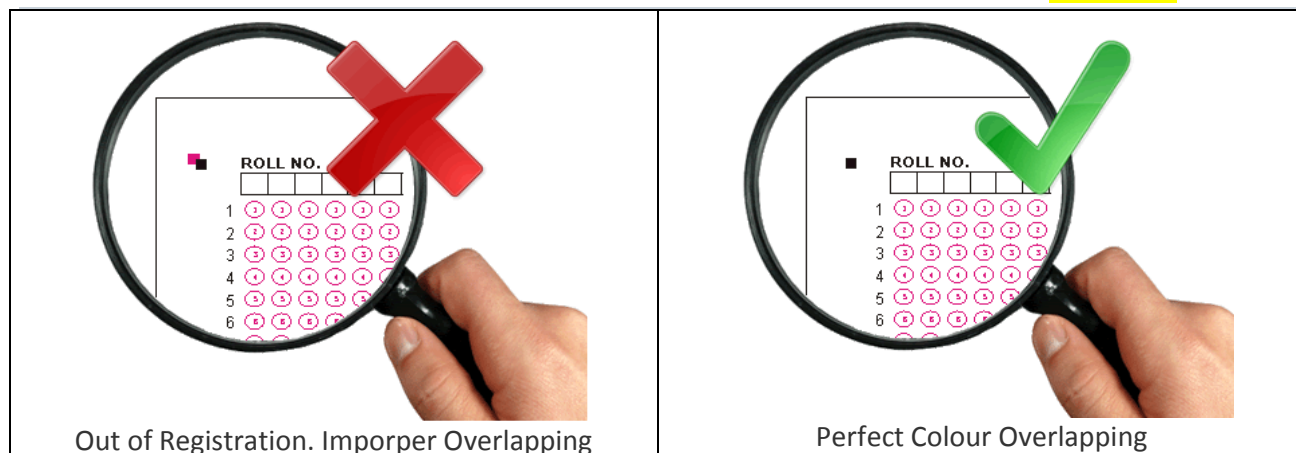

Figure 2 : Perfect 2 Colour Printing
- In case of Offset printing, the corner black index points are printed in both colours, such that the exactly overlap and there is no relative displacement i.e. **zero-zero registration**. (see fig. 2)